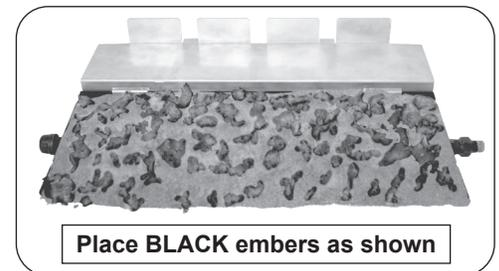

Fig. 1-3 Cover media with black embers
3. Sprinkle **black embers** **lightly** and **evenly** over the entire surface of the sand/vermiculite as shown in Fig. 1-3. **Break up any clumps that may have developed during shipment. The remaining embers will be used at a later point in this kit installation.**